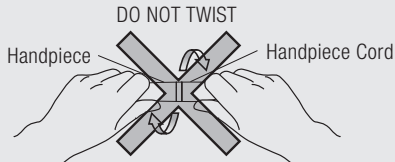

Figure 2
- When removing the handpiece from the handpiece cord, hold the handpiece cord plug to remove it. Pulling the cord may cause it to break. Do not twist the handpiece and cord to remove them. (Figure 2)